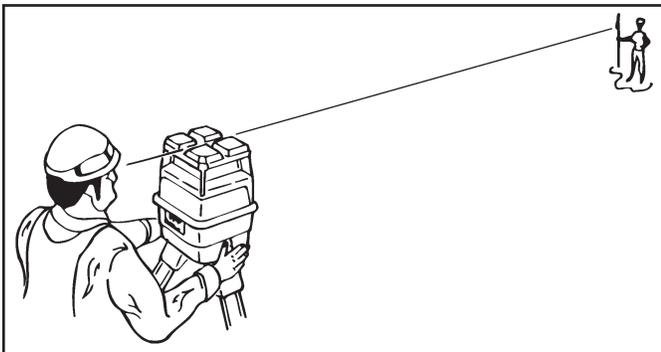

Figure 21. Sight over Rotating Laser
5. Roughly align one of the axis to the grade stakes by sighting over the top of the Rotating Laser (Refer to Figure 21).
4. Roughly align one of the axis to the grade stakes by sighting over the top of the Rotating Laser (Refer to Figure 21).